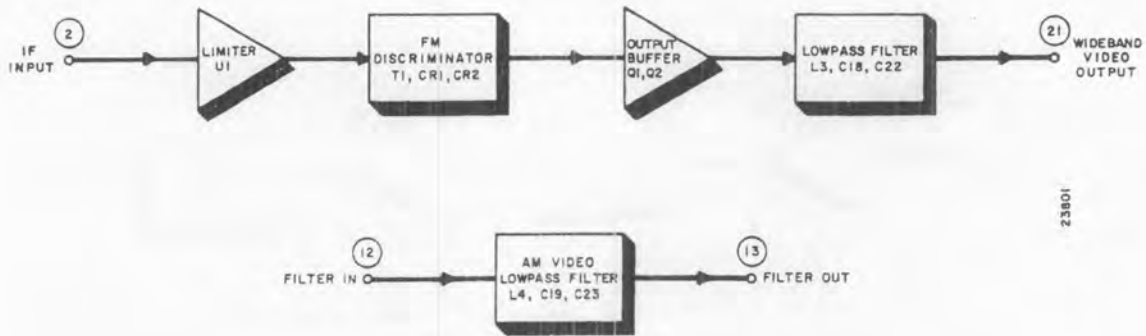

Figure 3-7. FM Limiter/Discriminators, A6AY,
3.9.6 TYPES 791331 (100 kHz BW), 791338 (200 kHz BW), 791366 (300 kHz BW), 791329 (500 kHz BW), and 791378 (1 MHz BW) FM LIMITER/DISCRIMINATOR SUBASSEMBLIES (A6AY). - Refer to the block diagram, Figure 3-7. Each subassembly contains an fm limiter/discriminator circuit and a lowpass filter that is a part of the am video circuit. The limiter/discriminator demodulates the i-f signal from subassembly A6A5, thus providing the fm video signal for the receiver. The circuit is composed of a limiter, an fm discriminator, an output buffer, and an output lowpass filter. The am video lowpass stage filters the detector output of subassembly A6A5, so that the bandwidth is only wide enough to pass the desired am video signal. The bandwidth employed is approximately one-half that of the discriminator. As a result of the band limiting, noise is reduced.